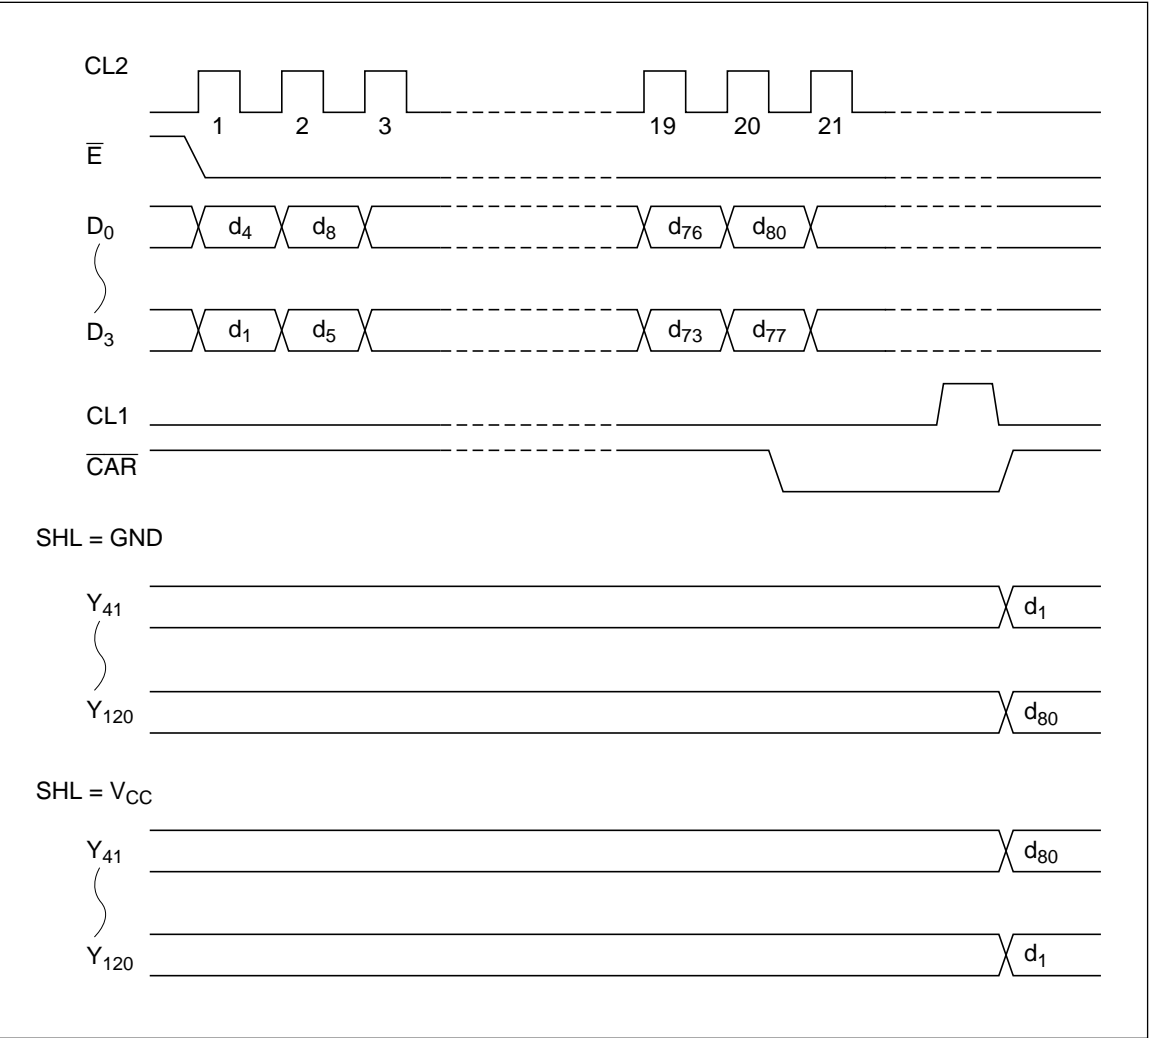

Figure 7 Column Driver Timing Chart (4)
When CH2 = V_{CC} and BS = GND, 4-bit parallel data is latched, while 80-bit data is output. The output of latched data is performed in described in “Column Driving (3).” See figure 7.